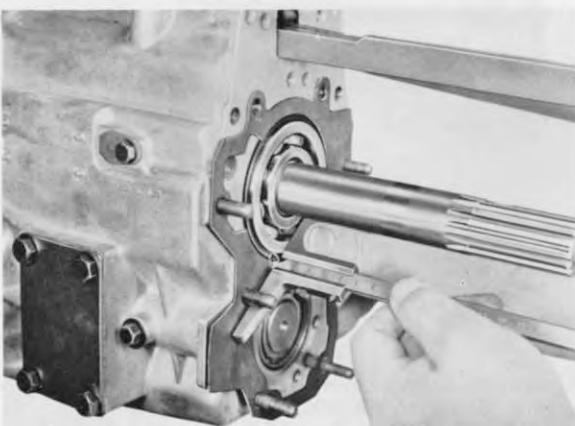

Fig. 56
- Firstly, tap the outer ring of the roller bearing (303) on the largest diameter into the housing bore. For this, use a plastic or lead hammer.
- Place gasket (802) on the gearbox rear housing.
- Gently, with a plastic or lead hammer, tap the outer ring of the ball bearing (423) into the housing up to the stop. With a depth gauge measure the distance from the upper surface of the outer bearing ring to the gearbox joint face with gasket in place (Fig. 56).